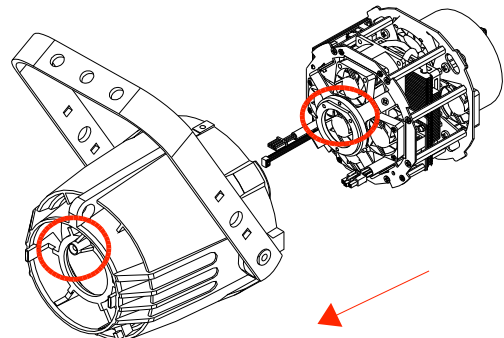

Fig.3
7. Insert HPLed in the Source 4 body ensuring the correct inward direction is followed as marked by the 2 red round ring references and by the red arrow as shown in figure 3. During such operation make sure that the 3 connecting cables (i.e. power cable, dmx cable and display cable) are led through loop-holes of the case ensuring that they will not be squeezed during reassembling.